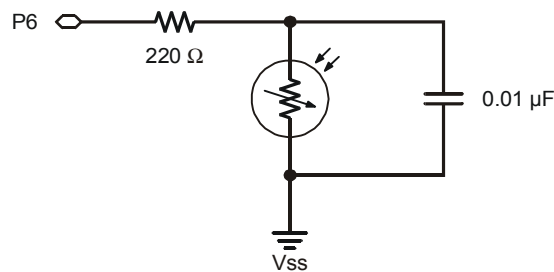

**Figure 6-9**
The circuit the BASIC Stamp can use to determine light levels is called a resistor/capacitor (RC) circuit. Figure 6-8 shows schematics of the Boe-Bot's RC light detection circuits and Figure 6-9 shows examples wiring diagrams for the Board of Education and the HomeWork Board.
- √ Build the RC circuits shown in Figure 6-8 using Figure 6-9 as a reference.